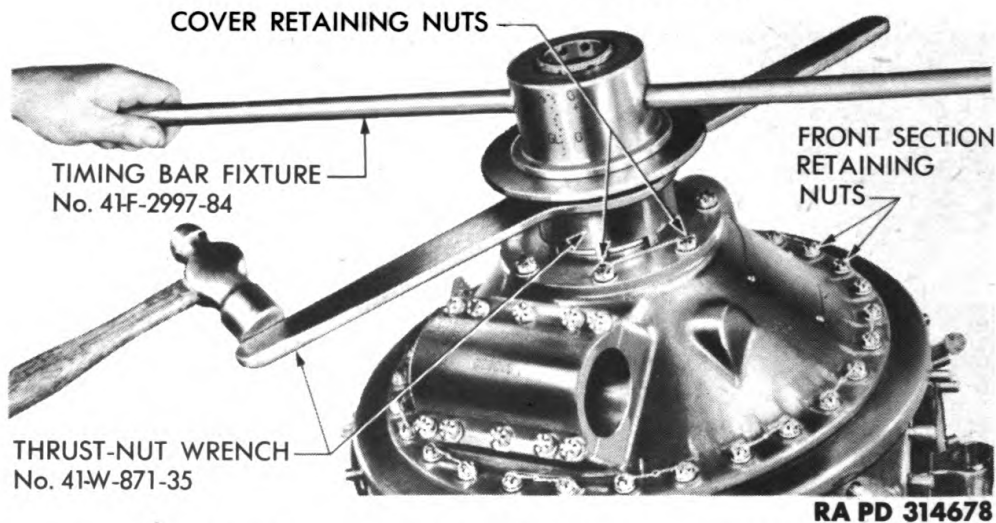

Figure 59 – Removing Thrust Bearing Retaining Nut
q. Remove Thrust Bearing Retaining Nut. Install special wrench (41-W-871-35) on thrust bearing retaining nut. Turn nut off shaft while holding crankshaft stationary with timing bar, or another suitable bar (fig. 59).
r. Remove Front Crankcase Section. Cut and remove safety wires from 7 nuts holding front crankcase section cover to front crankcase section (fig. 59). Remove nuts and flat washers. Lift off cover, laminated shim, and oil slinger (fig. 60). Cut and remove safety wires from 28 nuts holding front crankcase section to center section (fig. 60). Remove nuts and flat washers. Using a special